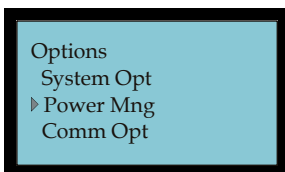

Figure 2-101 Select Power Management
2. Press **OK** to display Options menu and select Power Mng (see **Figure 2-101**).